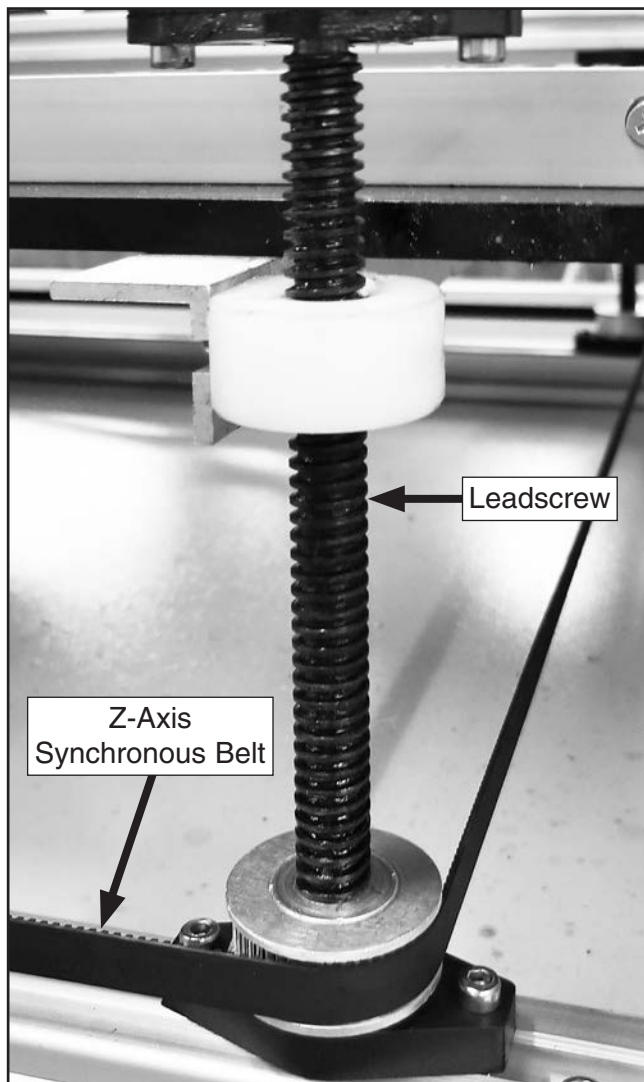

Figure 74. Z-Axis leadscrew location (1 of 4).
4. Use cardboard or cloth rags to protect leadscrew belt (see **Figure 74**) from cleaning fluids and lubricating oil.